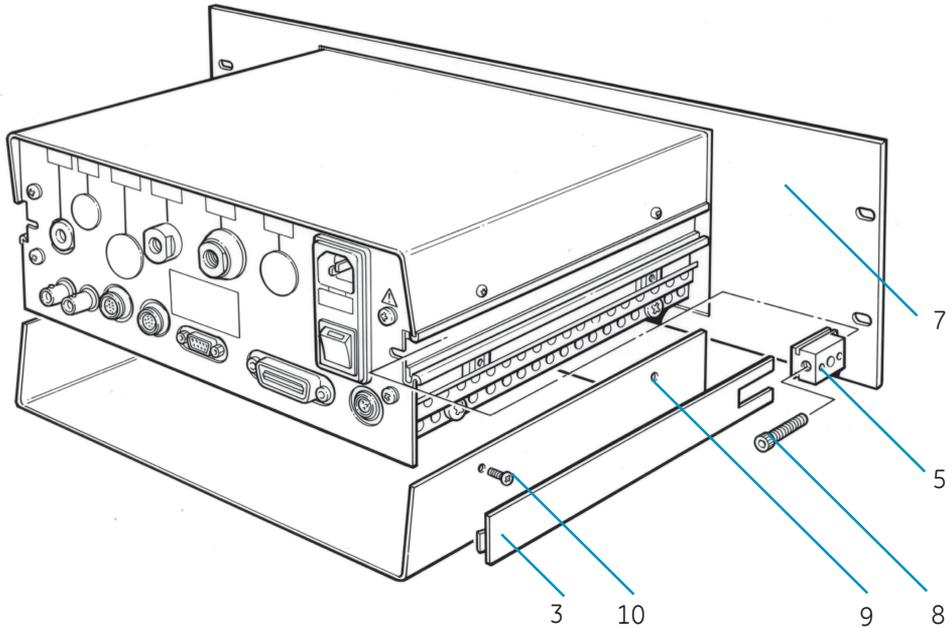

Figure 3.3 - Rack Mounting Arrangement
### 3.1.2 Rack Mounting (Figure 3.3)
- Remove the four screws (10) securing the lower cover of the instrument (9) and remove the cover. Refer to Fig. 3.3.
- Slide the instrument (rear first) through the rack front panel (7) as shown in Fig. 3.3.
- Fit a M6 cap screw (6) into each adaptor block (5) and partially screw into the block.
- Tighten the M6 cap screw (8) on each side, evenly against the back of the rack panel but do not over-tighten.
- Refit the bottom panel (9) to the instrument.